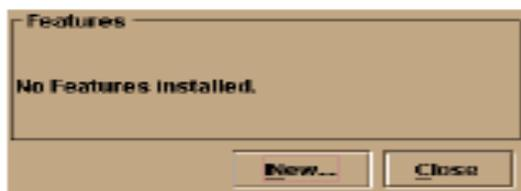

Figure 2: Configure Feature Key dialog box
2. At the **Hardware View**, click **Configure** at the top of the view and select **Features** from the pop-up menu. The **Configure Feature Key** dialog box displays (Figure 2).